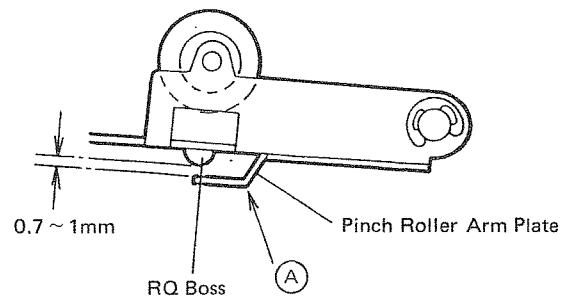

Fig. 27
- After adjustment check that the gap between the RQ boss and the pinch roller arm plate is within 0.7 to 1mm. If it is beyond the limits, adjust it by bending the part (A) of pinch roller arm plate as shown in Fig. 27.